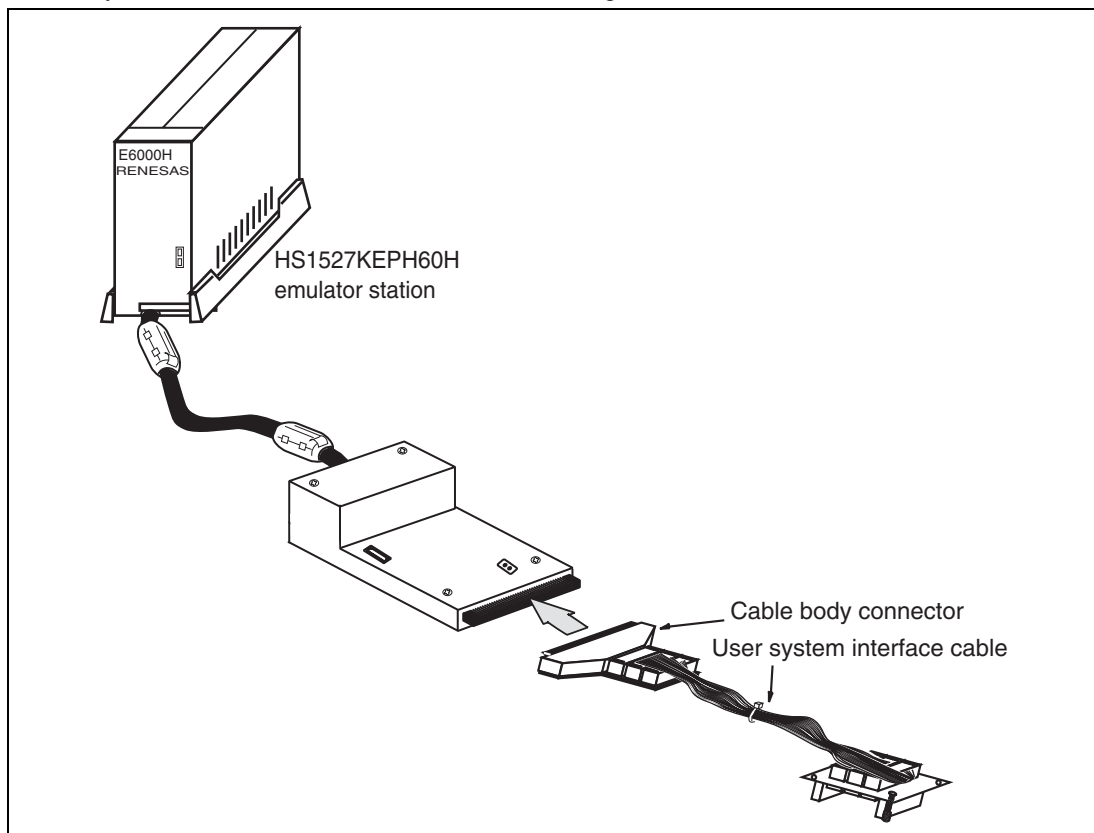

Figure 2 Example of the HS1527KEPH60H Emulator Station
2. After making sure the direction of the cable body connector is correct, firmly insert the cable body connector into the emulator station socket (figure 2).